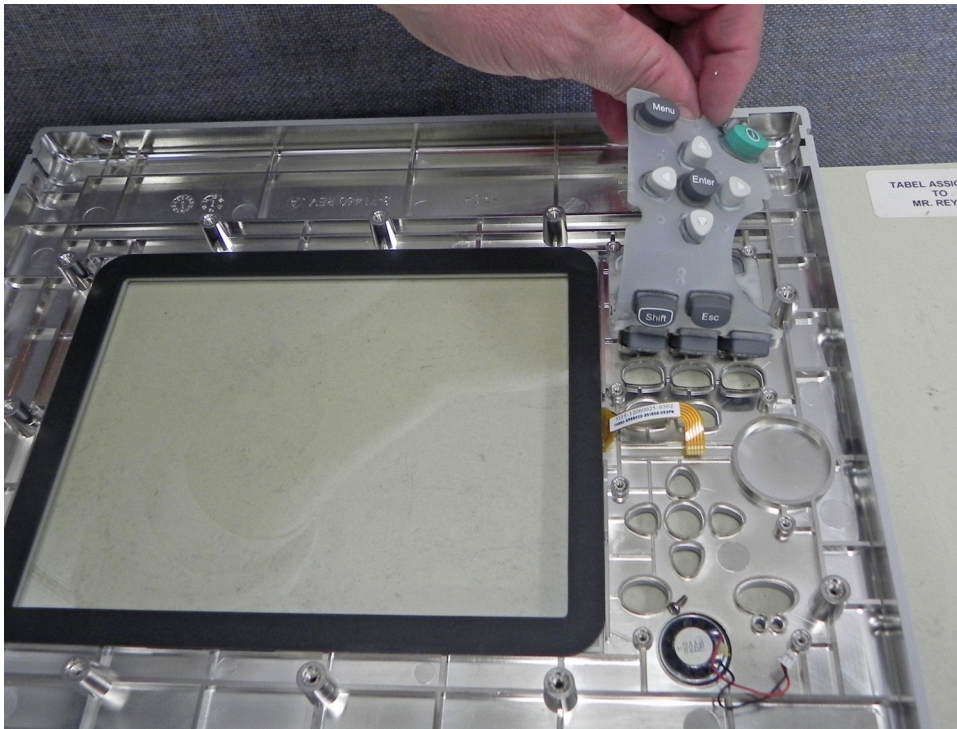

Figure 5-17. Remove Rubber Keypad Membrane
9. Peel up the rubber keypad membrane (Figure 5-17).